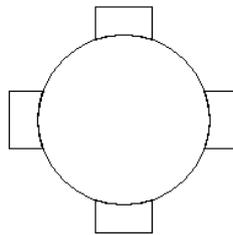

Fig. 1.7.18
**Main:** Retain the main object and the none-overlapping parts of the other objects, see Fig.1.7.18.